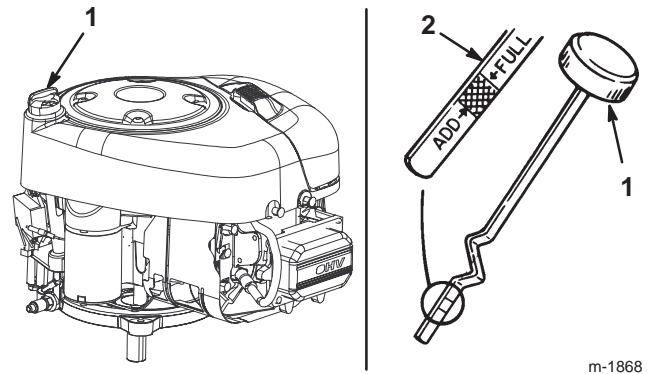

Figure 17
8. Clean around the oil dipstick (Fig. 17) so that dirt cannot fall into the fill tube and damage the engine.
9. Unscrew the oil dipstick and wipe the metal end clean (Fig. 17).
10. Screw the oil dipstick fully onto the fill tube (Fig. 17). Unscrew the dipstick again and look at the metal end. If the oil level is low, slowly pour only enough oil into the fill tube to raise the level to the Full mark on the dipstick.
13. Slowly pour approximately 80% of the specified amount of oil into the filler tube (Fig. 17). Check the oil level; refer to steps 4 and 5 of Checking the Oil Level on page 22.